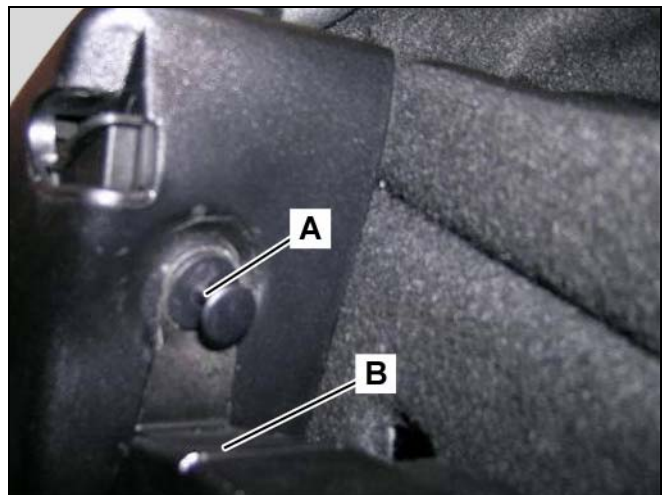

Figure 29
7. Fasten the SDARS bracket (B, Figure 29) with the previously removed rivet (A, Figure 29).